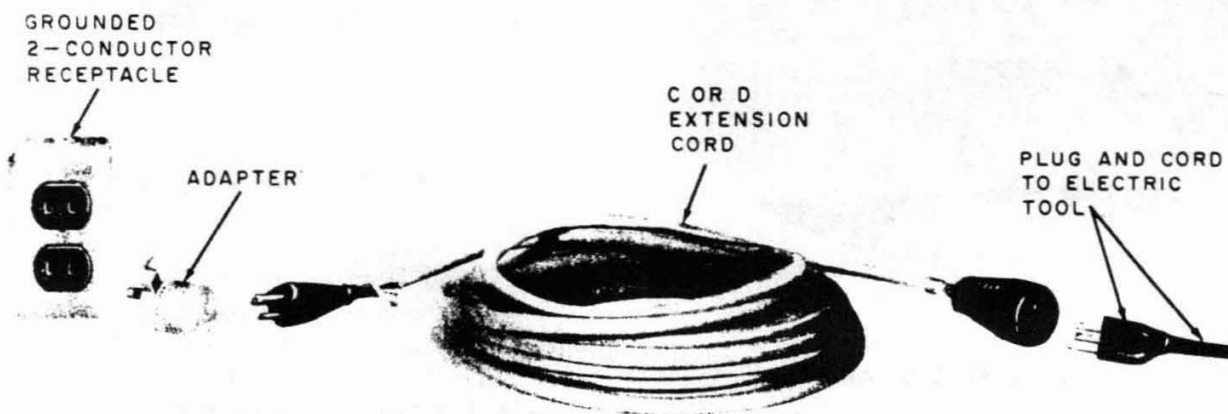

Fig. 7—Typical Cord Makeup
**3.06** The D extension cord is used for connecting heavy duty electric tools such as a 1/2-inch drill or an electric soldering pot to a power outlet. The D extension cord is rated for 15 amperes at 120 volts or 1.875 kW. The C extension cord is rated at 7.5 amperes at 120 volts or 937 watts. Figure 7 gives a typical cord makeup using an extension cord and adapter.